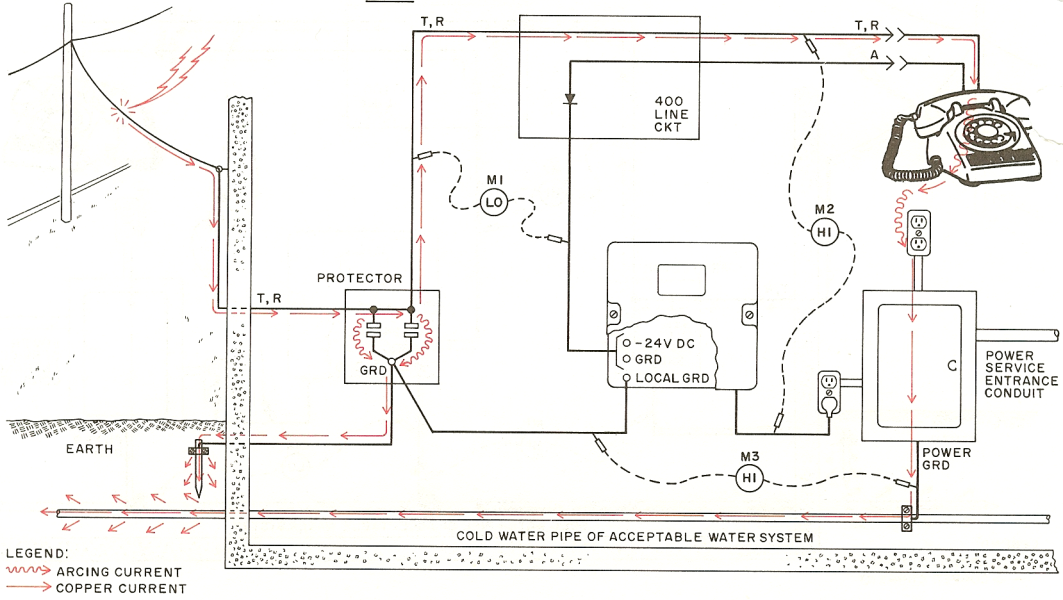

Fig. 14—Protector and KTS Power Supply Grounds Bonded to Ground Rod and AC Power Ground Bonded to Cold Water Pipe
**6.06** *Protector and Power Supply Grounded to Ground Rod (Fig. 14):* The grounding arrangement shown in Fig. 14 eliminates any possibility of arcing between the telephone line and the KTS because both the protector and the power supply are grounded to the same point. Meter M1 indicates that a peak voltage equal only to the carbon firing point exists between the telephone line and the KTS equipment. However, a large potential can exist between the KTS and the commercial power system because the latter is connected to a different ground (M2 and M3).